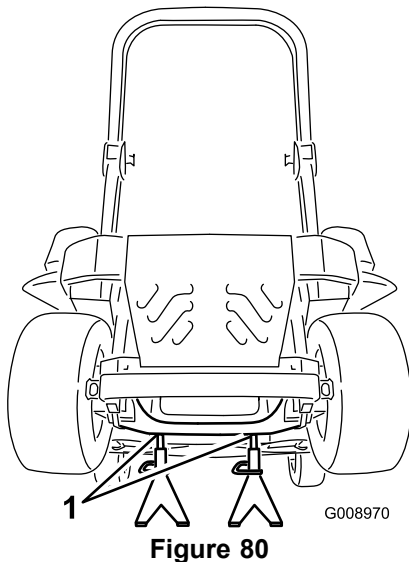

Figure 80
3. Raise the machine and support it with jack stands (Figure 80).
9. Remove the jack stands and lower the machine (Figure 80).